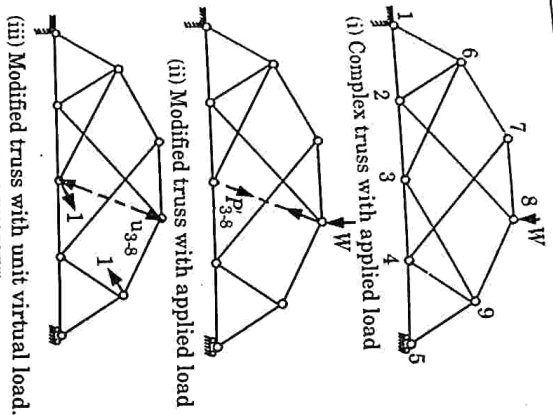

Fig. 2.12.1.
1. A complex truss, as shown in Fig. 2.12.1, has three or more connecting members at a node, all with unknown member forces.
- As shown in Fig. 2.12.1(ii), member 3-9 is removed, leaving only two unknown forces at node 9, which may be determined.
- The applied loads are now removed, and unit virtual loads are applied to the modified truss along the line of action of the original member 3-9, as shown in Fig. 2.12.1(iii).